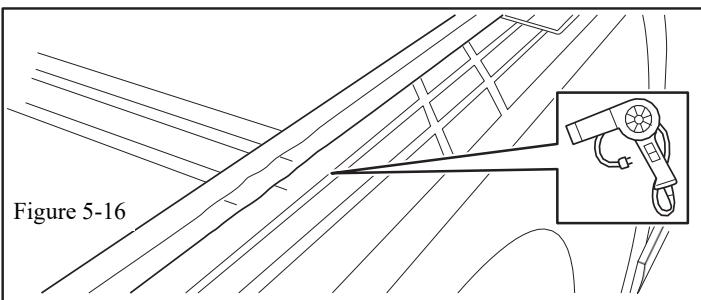

Figure 5-16
- (p) The side seals may appear wrinkled shortly after installing the cover. Use a hair dryer, a heat gun or exposure to the sun will help to smooth them. (Figure 5-16)